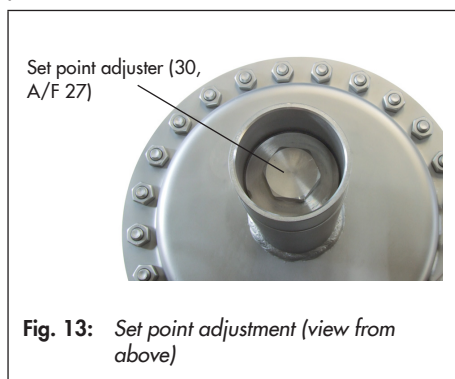

Fig. 13: Set point adjustment (view from above)
Adjust the required set point (see Fig. 13) by tensioning the set point springs (27) at the set point adjuster (30) using a suitable socket wrench (width across flats 27).
1. Remove the cap (50).
2. Use a socket wrench (A/F 27) to turn the set point adjuster (30).